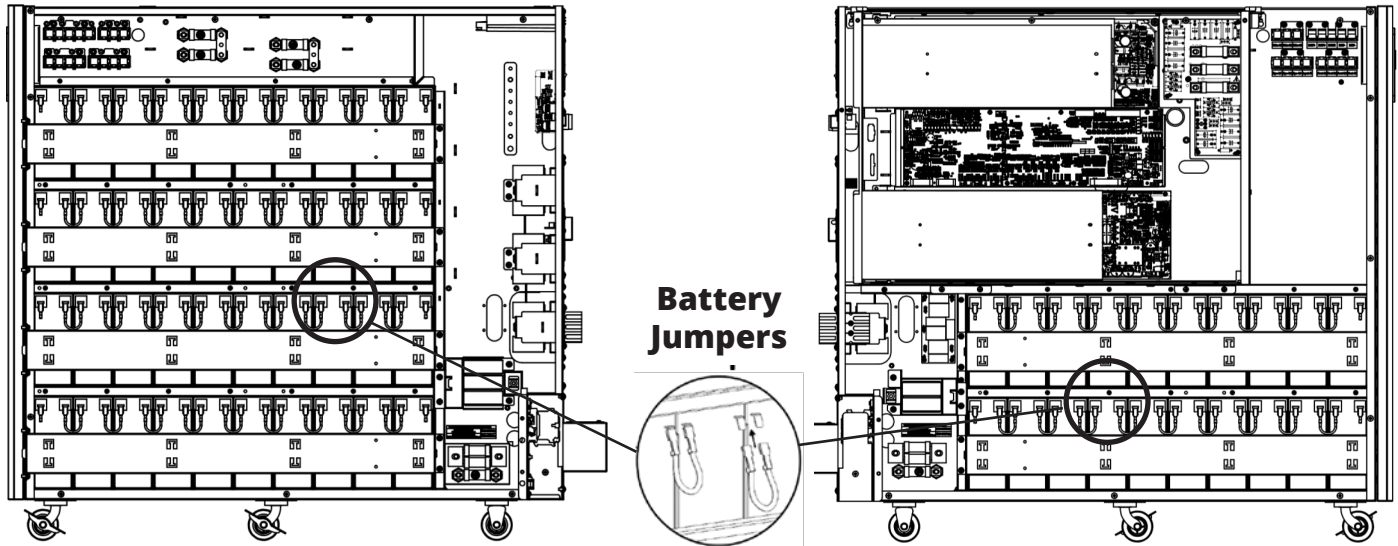

Figure 3-13: Connect Battery Jumper Cables
8. Connect the battery jumper cables on both sides of the UPS (Figure 3-13).